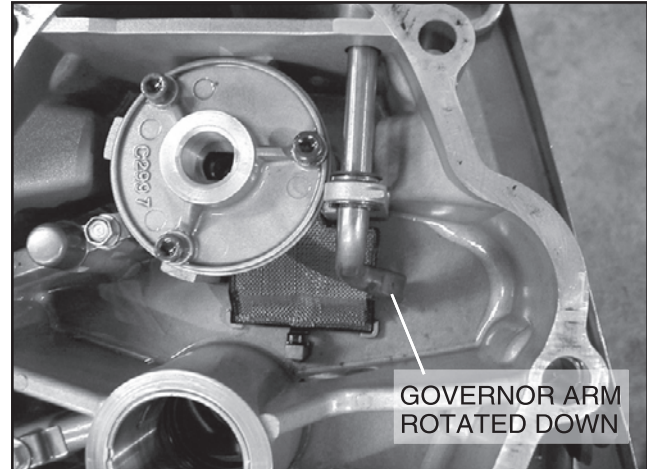

Figure 13-8. Rotating Governor Shaft
1. Rotate governor shaft so that the paddle rests against the oil pump pick-up, Figure 13-8.